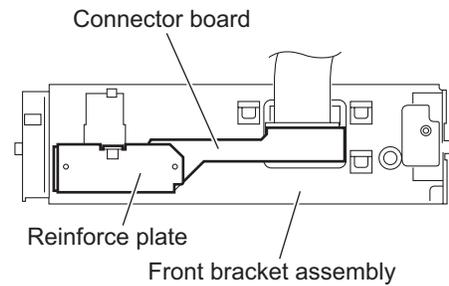

Fig.15
- (5) Remove the reinforce plate and take out the connector board from the front bracket assembly. (See Fig.15.)